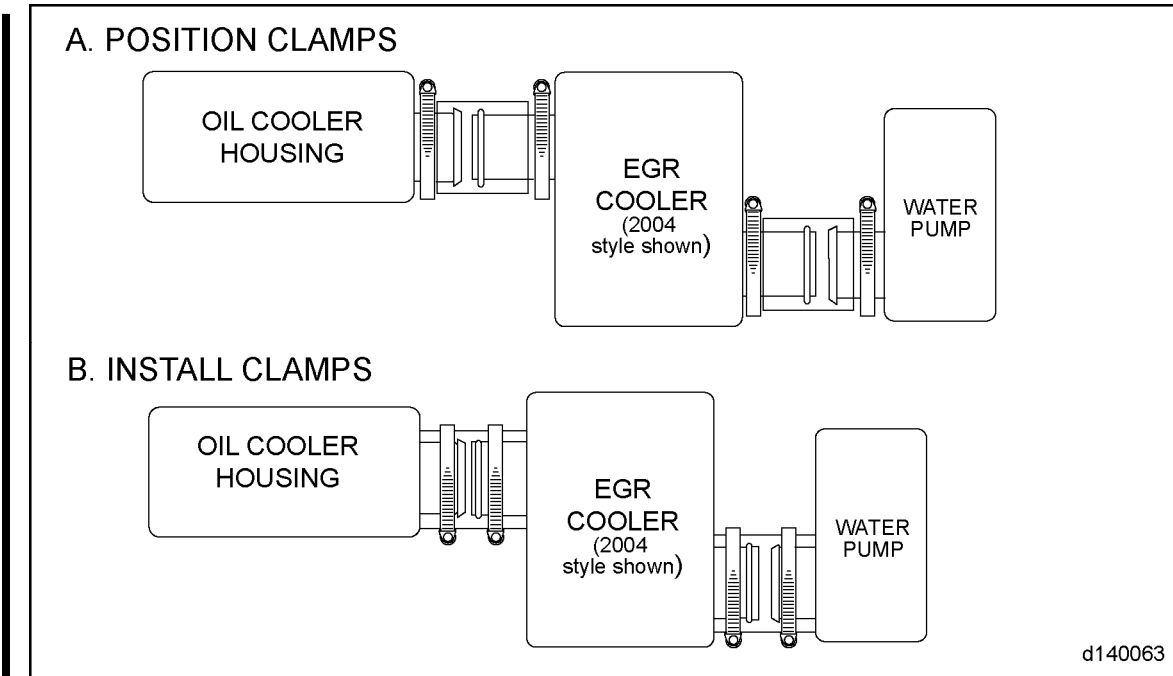

Figure 3 Installing Constant Tension Clamps on Multiple Connections
2. Position the constant tension clamp on the hose. See Figure 3.